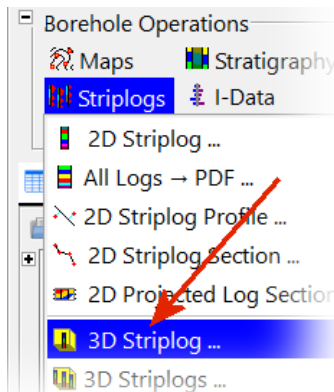

Figure 7
- Select the *Borehole Operations / Striplogs / 3D Striplog* program (Figure 7).